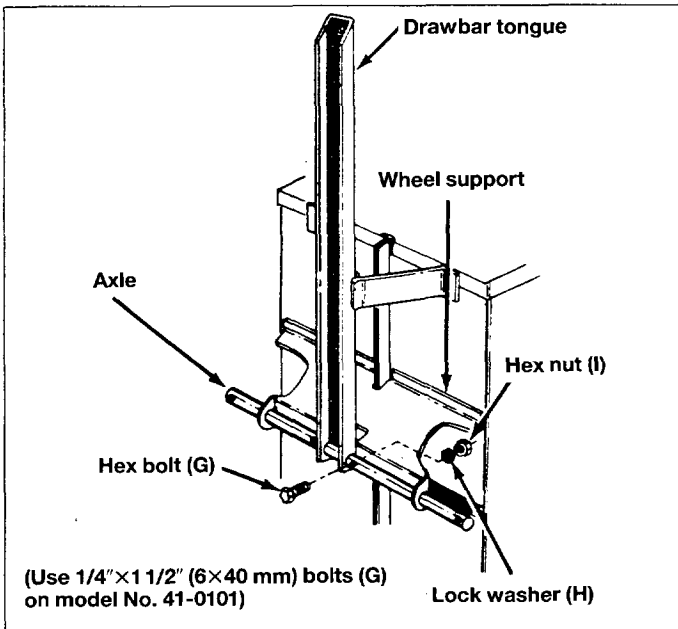

Fig. 11
16. Assemble axle and drawbar tongue to wheel support keeping open side of tongue facing down. Fasten axle to wheel support or axle brackets, using 1/4" x 1 1/2" (6 x 40mm) long hex bolts (G) lock washers (H) and hex nuts (I). See figure 11.